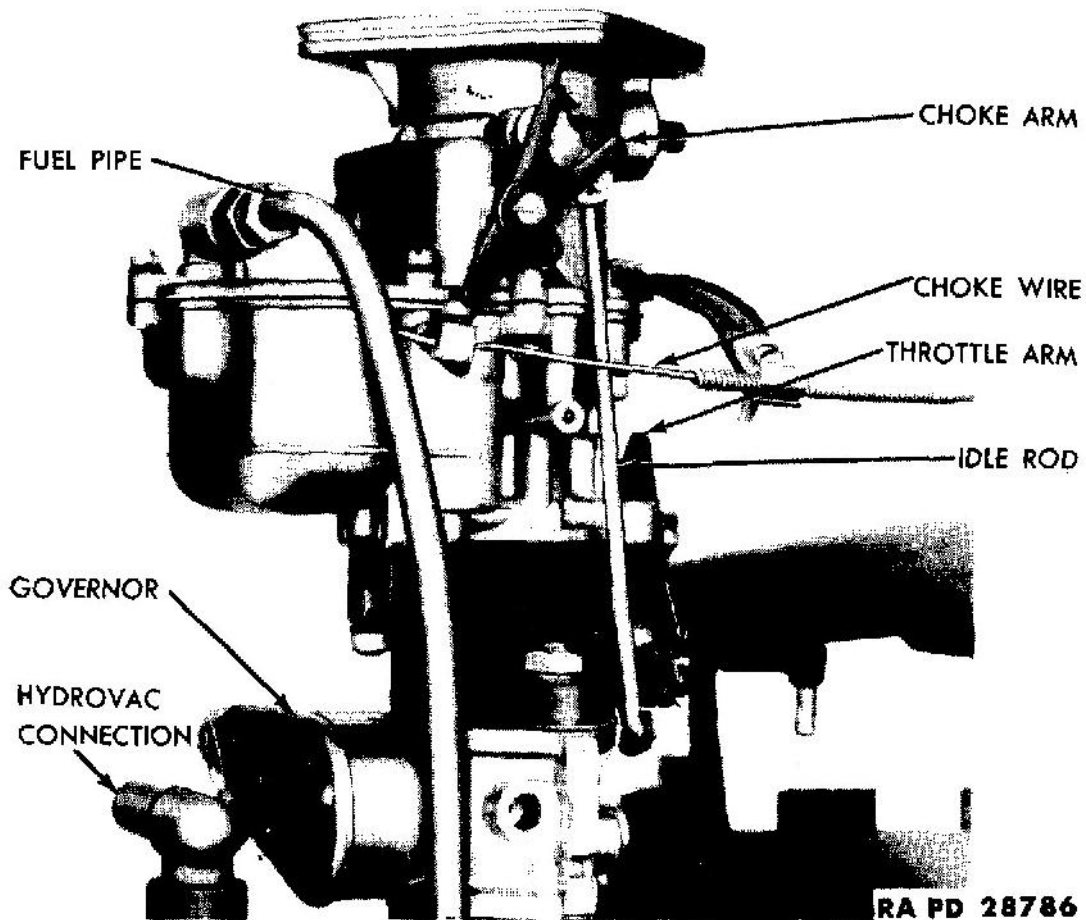

Figure 22 — Carburetor — Front Side
a. Description. The carburetor (figs. 22 and 23) is a single barrel down-draft unit.
64. GOVERNOR (figs. 22 and 23).